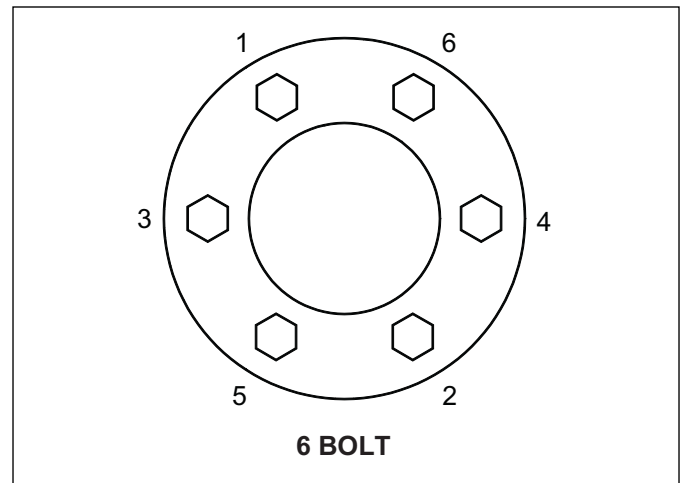

Figure 2-8: Tightening Sequence
- Install a Tire and Wheel Assembly onto each Hub with 1/2-20 x 1 Wheel Bolts and tighten Wheel Bolts to 50 Ft-Lbs using the sequence in **Fig 2-8**. Then tighten to a full torque of 80-85 Ft-Lbs.